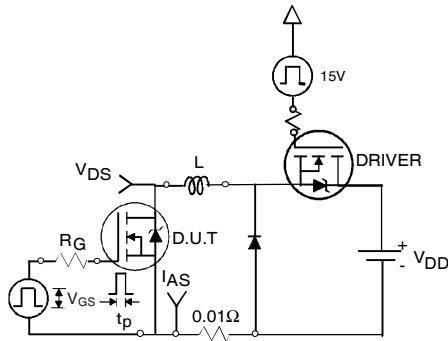

Fig 12a. Unclamped Inductive Test Circuit
- ③ Pulse width $\leq 1.0ms$; duty cycle $\leq 2\%$.
- ④ $C_{oss\ eff.}$ is a fixed capacitance that gives the same charging time as C_{oss} while V_{DS} is rising from 0 to 80% V_{DSS} .
- ⑤ Limited by T_{Jmax} ; see Fig.12a, 12b, 15, 16 for typical repetitive avalanche performance.
- ⑥ This value determined from sample failure population. 100% tested to this value in production.
- ⑦ This is applied to D²Pak, when mounted on 1" square PCB (FR-4 or G-10 Material). For recommended footprint and soldering techniques refer to application note #AN-994.
- ⑧ R_θ is measured at T_J of approximately 90°C .
- ⑨ Solder mounted on IMS substrate.
3. Equation below based on circuit and waveforms shown in Figures 12a, 12b.